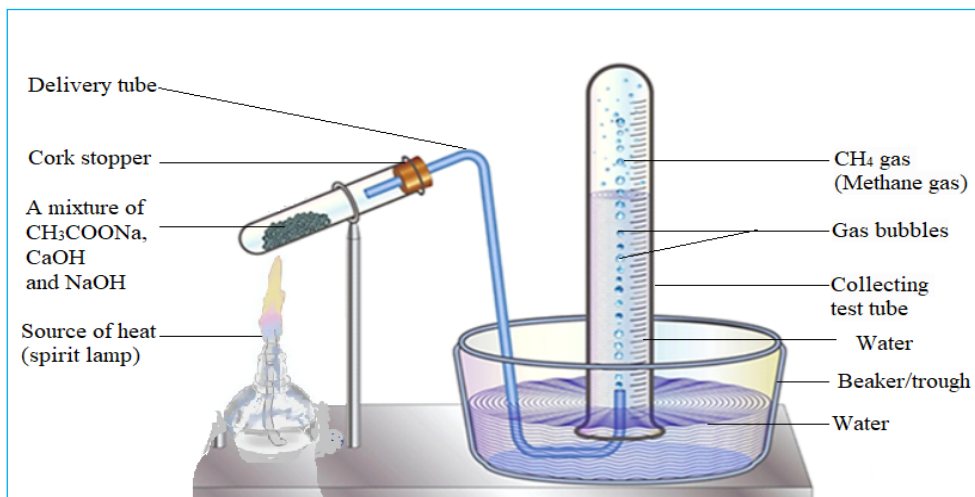

Figure 2.1: Laboratory preparation of Methane gas
4. Fix the apparatus as shown in figure 2.1.